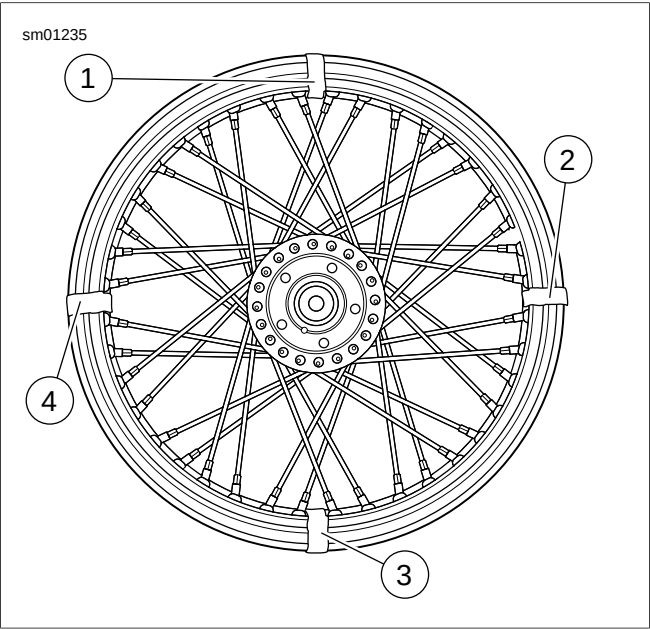

Figure 2-43. Marking Spoke Groups
1. See Figure 2-43. Place a piece of tape to mark the center of each group of four spokes as shown. The groups should